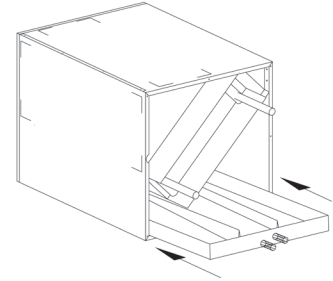

Fig. 07
- 5) Replace the drain pan in (new) bottom location. (Fig. 07)